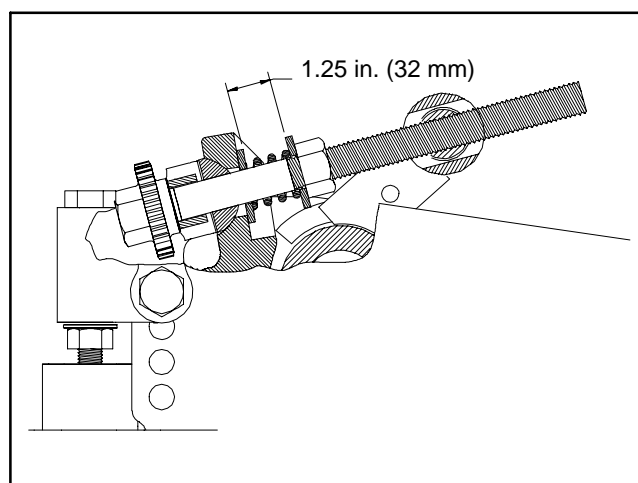

Figure 27
6. Install bedknife adjusting knob assembly. Tighten locknut to compress spring to dimension shown (Fig. 27).